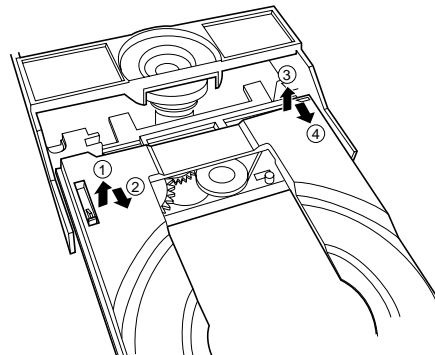

Fig. 2
3. While lifting up the tray (③), remove the tray by pulling it forward (④). (Fig. 2)